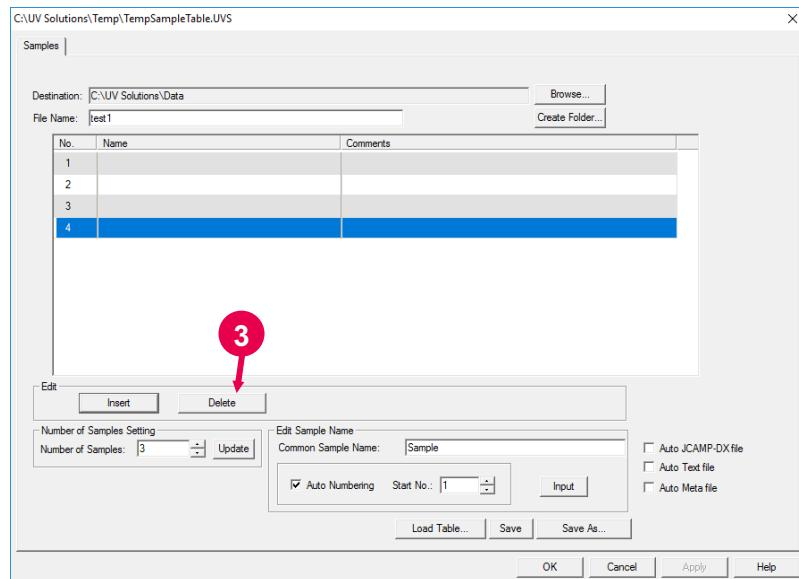

Fig. 3-12
- (2) To add a line to the end of the sample table, click the **Insert** button. A line will be added at each click of this button.
- (3) To delete an unnecessary line in the table, click the No. of the line to be deleted to make it active as shown in Fig. 3-12. Then click the **Delete** button.